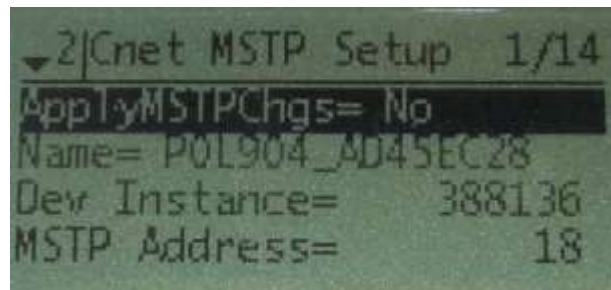

Figure 20. Unit Controller MSTP Setup Screen – Change “ApplyMSTPChgs”
5. Continue to navigate to BMS Communication\BACnet MSTP Set-Up and change “ApplyMSTPChgs” from ‘No’ to ‘Yes’ (see Figure 20).
4. Continue to navigate to BMS Communication\BACnet MSTP Set-Up and change “ApplyMSTPChgs” from ‘No’ to ‘Yes’ (see Figure 20).